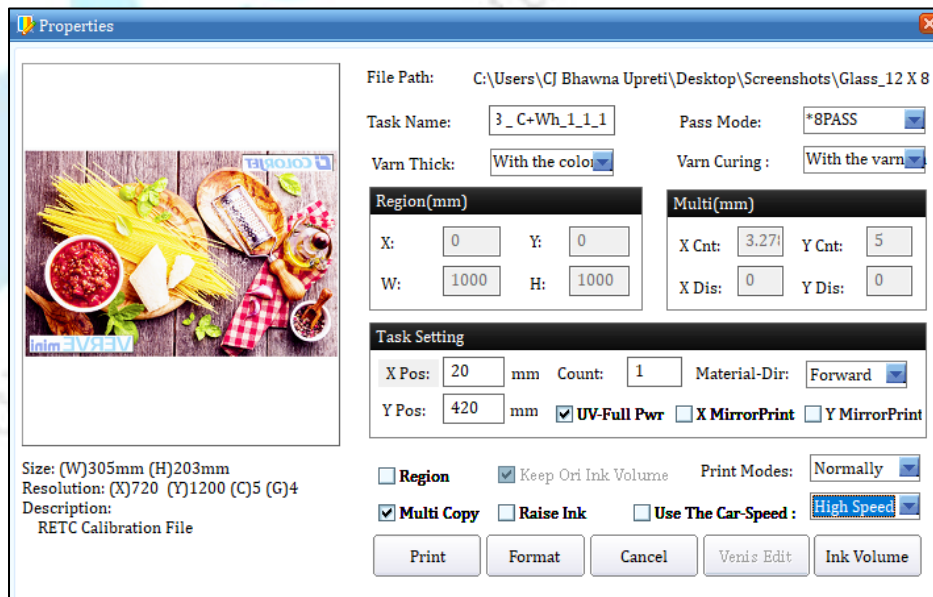

Figure 34: Properties Dialog Box
- Step 1** After opening the **Task Select** screen, navigate to the location where the printable file is stored (Refer to **Figure 34**).
Click on the **Ink Volume** button on the **Properties** dialog box (Refer to **Figure 34**) to check the requirement of each color ink to print the selected image. The **Image Color Ink Volume** screen appears as shown below: